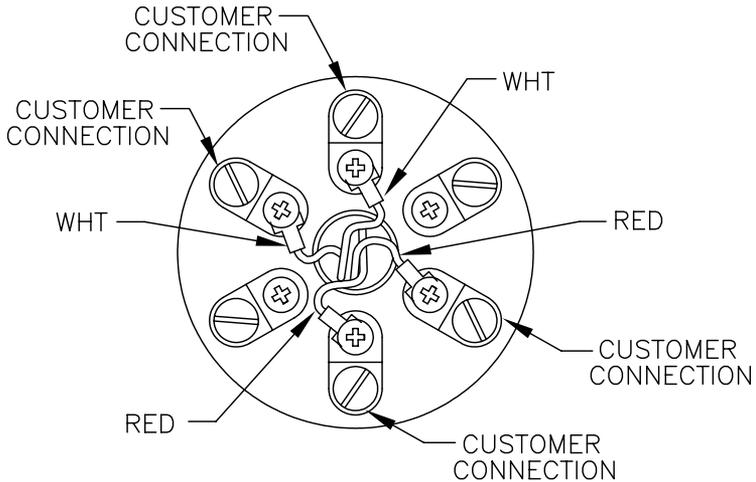

Figure 6 (RTD Terminal Block)
6. Assemble and install the RTD using the instructions included with the RTD kit. Wire RTD to unit per local codes. See page 7 for additional information. See also Figures 6 & 9 for wiring terminations.